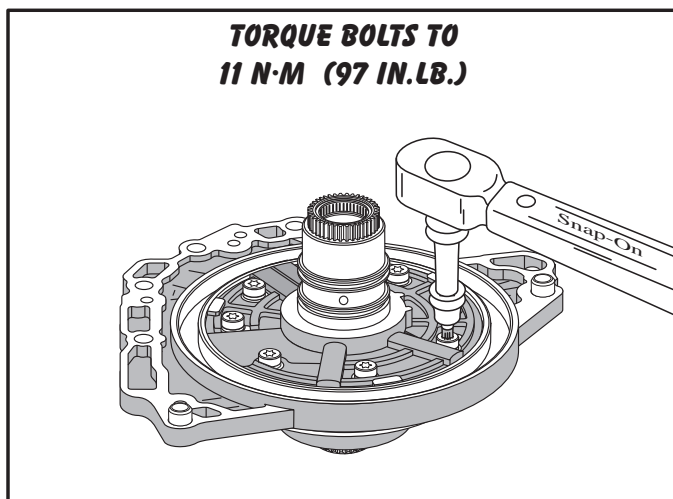

Figure 102
15. Torque the eight oil pump cover to pump body bolts down to 11 N·m (97 in.lb.), as shown in Figure 102, using a criss-cross pattern.